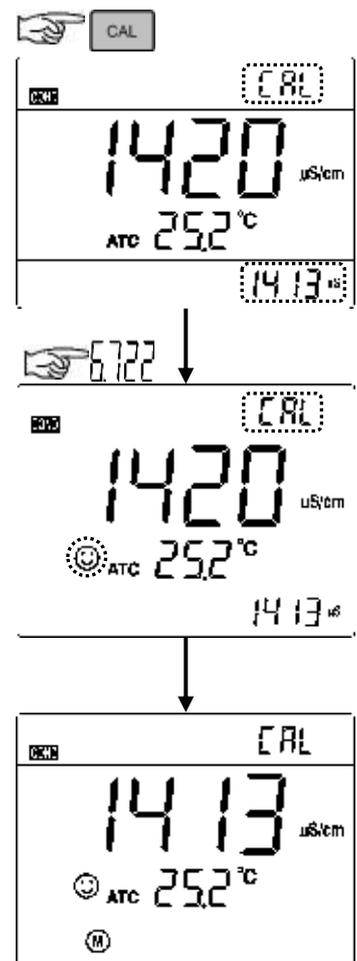

Figure-12
6.4.3 When the meter locks 1413 μS , stable icon  will display on LCD. Press **ENTER** key to complete calibration. End will appear and the meter will return to measuring mode and  is displayed on bottom left of the LCD screen. See figure-12.